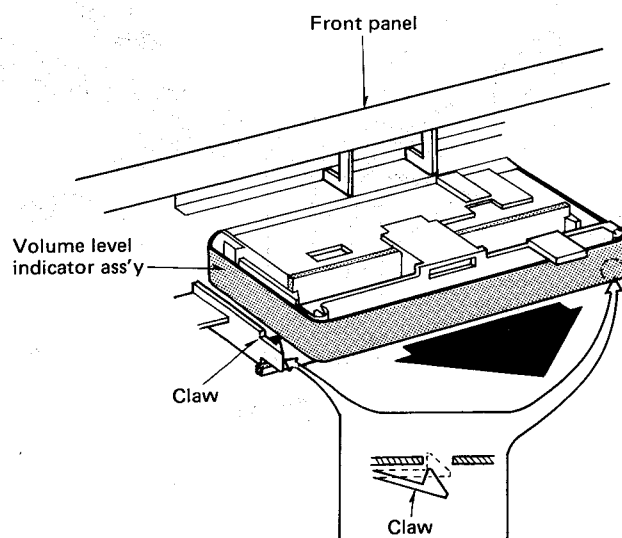

Fig. 16
2. The volume indicator ass'y is secured with the 2 claws protected from the volume ornament. So, release the claws with a screwdriver, and pull out the volume indicator ass'y as shown in Fig. 16.